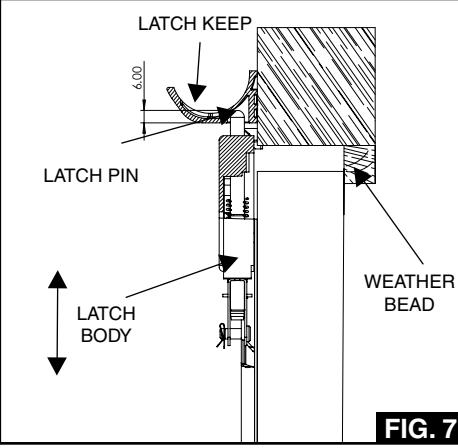

FIG. 7
**15.** Fix 19mm x 19mm wooden weather beading (not supplied) securely to the underside of frame lintel on the outside of the door (See Fig 7).